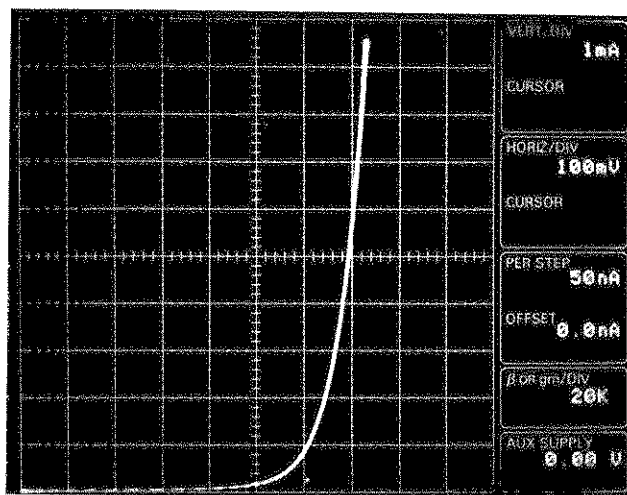

Figure 3-5. Display of signal diode forward-bias characteristics.
26. Set the LEFT-RIGHT-STANDBY control to RIGHT and turn the COLLECTOR SUPPLY VARIABLE control clockwise. Note the display of the forward voltage characteristic of the diode. (see Figure 3-5).